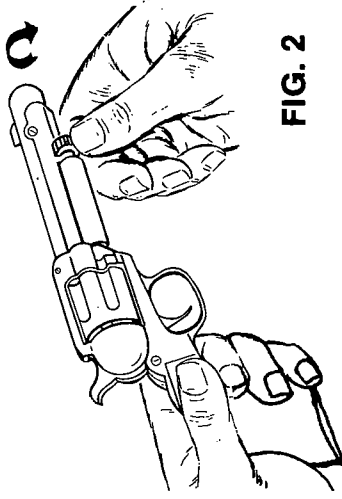

FIG. 2
- B. Turn Powerlet Retaining Screw (Fig. 2) until finger tight.